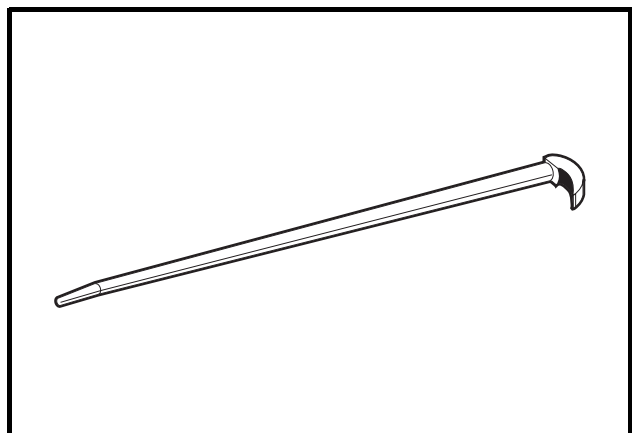
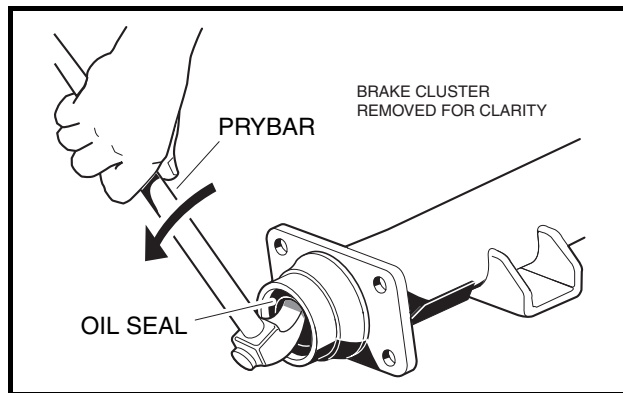

Figure 16-4 Rolling Head Prybar
Figure 16-5 Seal Lip
8. Position a 16-inch (40 cm) rolling head prybar (Figure 16-4, Page 16-3) under the inside lip of the seal and pull the oil seal out (Figure 16-5, Page 16-4). See following CAUTION.